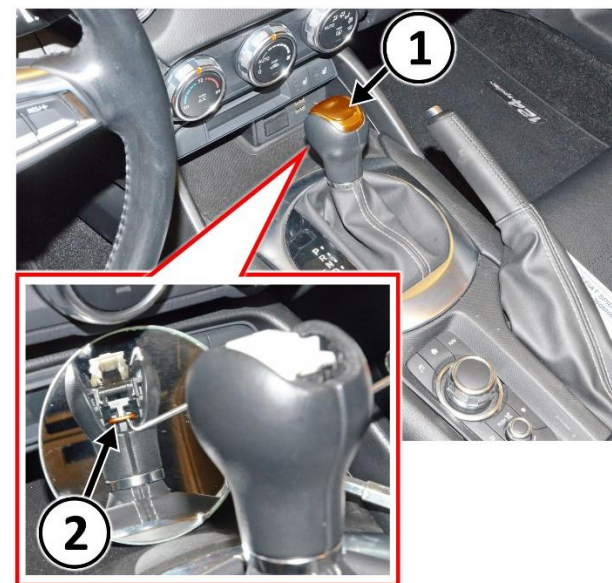

Figure 4 – Automatic Shift Knob
8. **If vehicle is equipped with an automatic transmission,** remove the gear shift knob trim cover (1) from the gear shift knob. Using a pick tool, release the retaining clip (2) from the front side of the knob, then remove the gear shift knob from the shift lever (Figure 4).